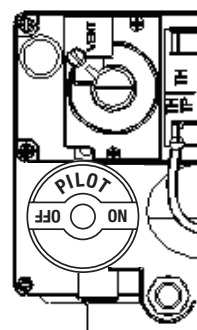

Fig. 3
4. **Set Gas Valve to "PILOT":** Turn the combination gas valve from "OFF" to "PILOT" and align the "PILOT" marking with the dot (Fig. 3).